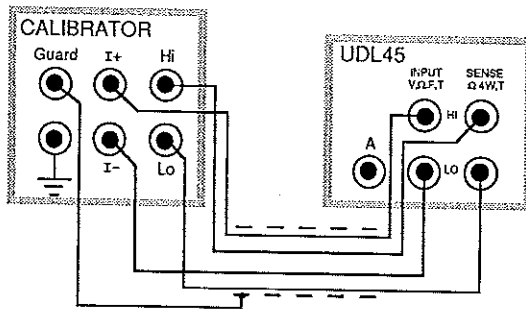

Figure 6-9. Calibrator-to-UDL45 Connections for 4-Terminal Resistance
- (5) Calibrate 4-terminal resistance
- c. Connect the calibrator to the UDL45 using a shielded cable as shown in Figure 6-9.
- h. To continue the calibration procedure, go to step (6)c. To conclude the calibration procedure at this point, press FUNCTION ▼ repeatedly until the CAL date is displayed (Table 6-4, step 23) and go to step (10)c.